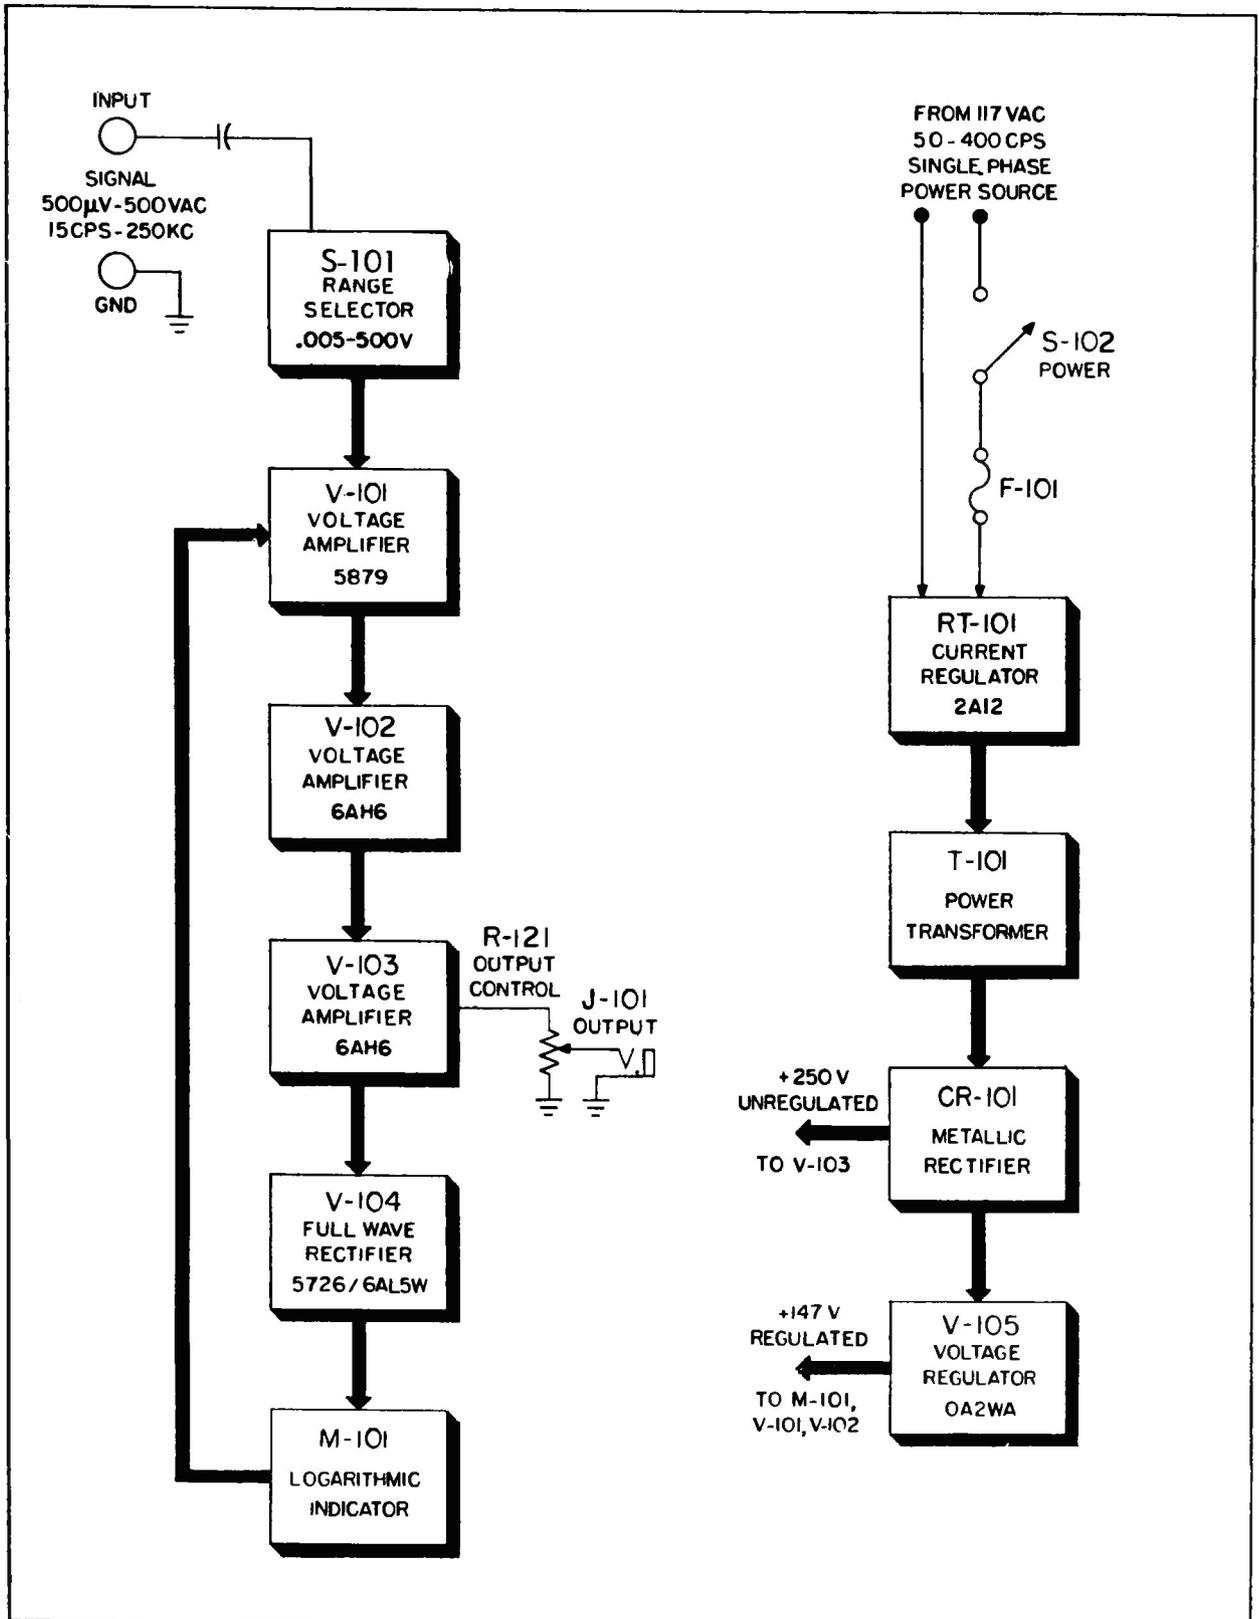

Figure 2-1. Electronic Multimeter ME-6D/U, Functional Block Diagram
(See Figure 2-1)
a. Reference to either the functional block diagram, figure 2-1 or the schematic circuit diagram, figure 6-2, will aid in tracing an a-c signal, applied at INPUT and GND. terminal E-101 and E-102, through the various stages to the OUTPUT or meter circuit.